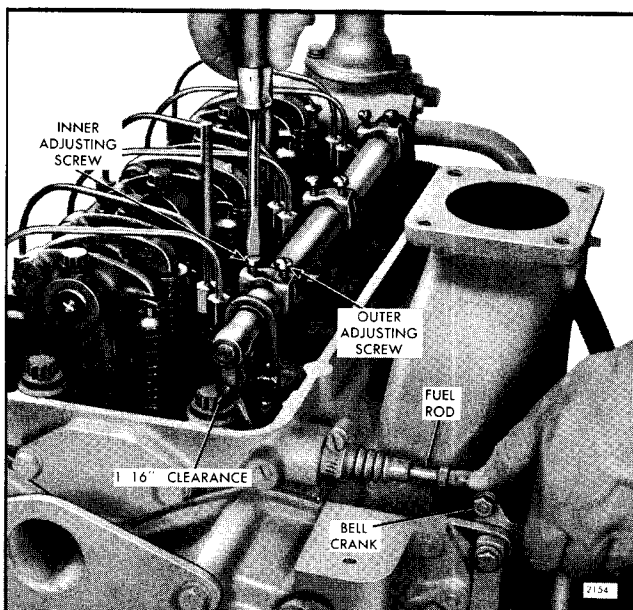

Fig. 1 - Positioning Injector Rack Control Lever
2. Loosen all of the inner and outer rack control lever adjusting screws (Fig. 1). Be sure all of the levers are free on the injector control tube.
3. Lift upward on the bell crank, as shown in Fig. 1, to move the injector racks into the full-fuel position and turn the inner adjusting screw down until a $1/16''$ clearance exists between the fuel rod and the cylinder head or the cylinder head bolt, whichever it contacts.